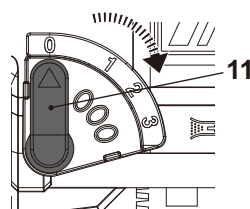

Fig. 10
The pendulum action can be adjusted using 4 different settings. You can adjust the pendulum action during operation using the pendulum selector lever (11). (Fig. 10).